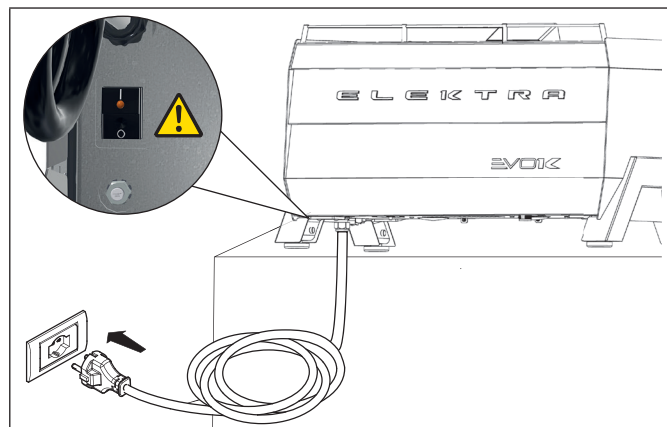

Fig. 06
4. In case the machine has an output cable with a schuko-type plug (**Fig. 06**), connect it directly to the user's power supply.